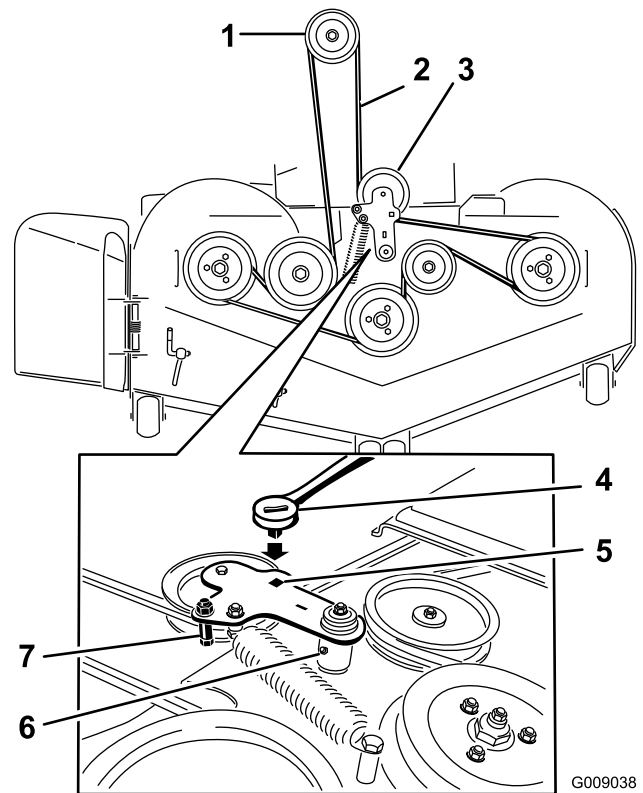

Figure 102
5. Lift up the floor pan and insert a ratchet into the square hole in the deck idler (Figure 102).
6. Rotate the deck idler clockwise and remove the mower belt (Figure 102).